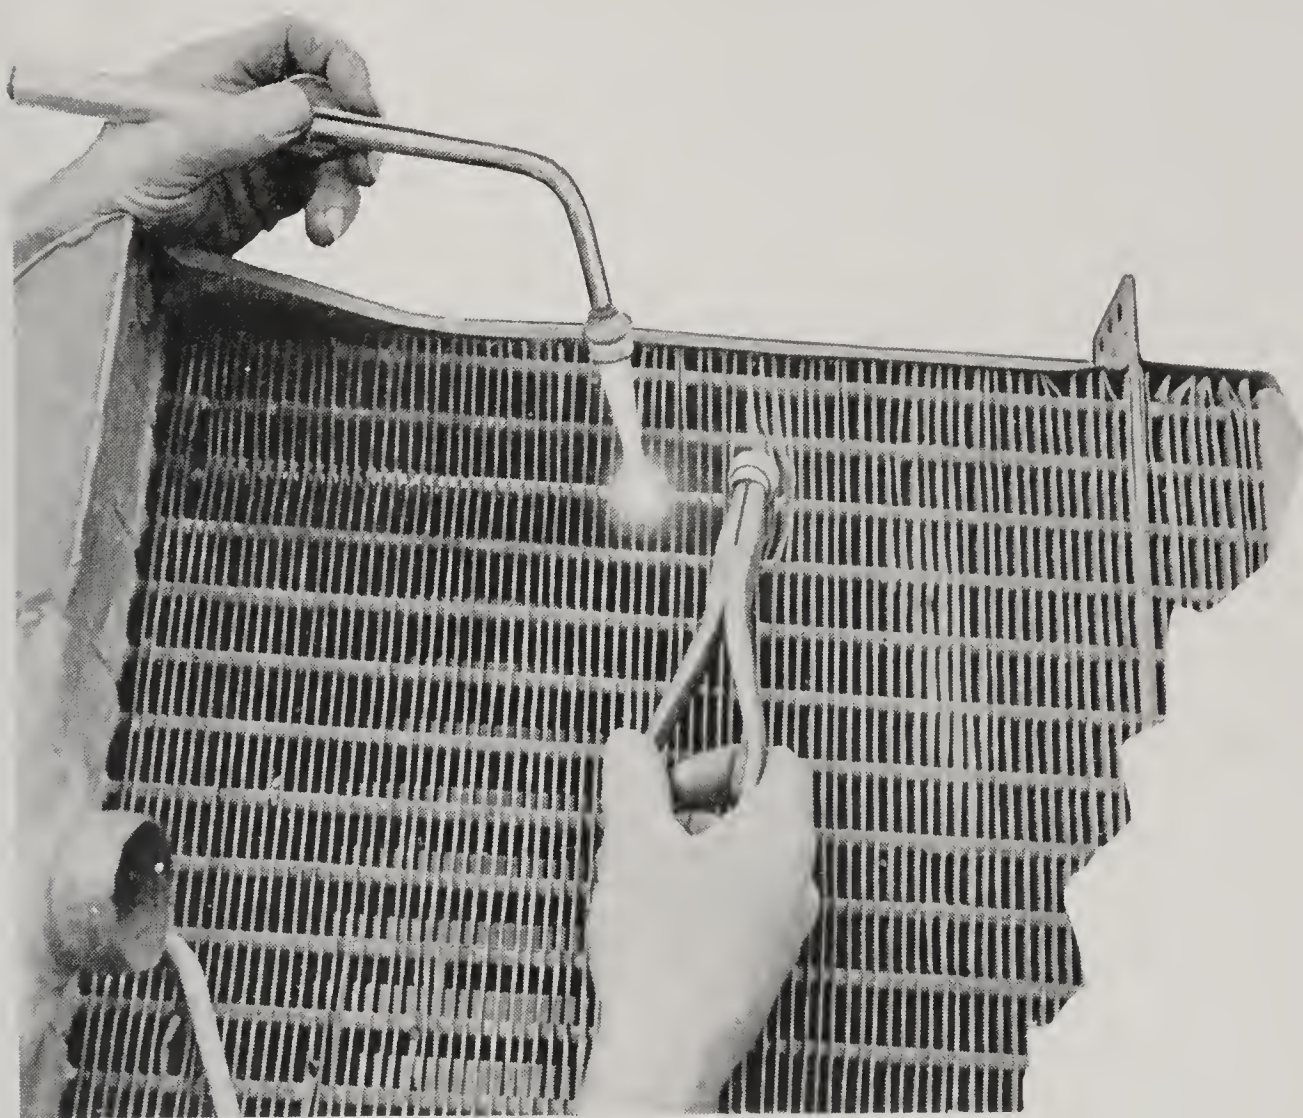

Fig. 94
When only one or two tubes are damaged it is not necessary to remove a tank to replace the tubes. The tube is sawed thru at the center or at the mutilation, also near each tank as shown in Fig. 94. An old hack saw blade wrapped with tape at one end for a handle makes a very satisfactory saw for this work.
**47. Removing Brass Tubes**—If upon examination the tubes are found to be of brass more care must be exercised in their removal. If the following method is used they can be pulled successfully. The tube should be sawed thru at three points as in Fig. 94. The needle nose pliers are used to break the fins loose from the tube for a distance of about two inches on each side of the middle cut. Heat is then applied to the tube beyond this loosened portion. When the solder is molten the tube is slowly rolled on the pliers. The fins that have been broken loose cool the tube as it passes thru them and